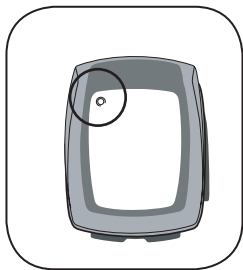

Figure 14- Wheel select screen
Both the 9i and 11i allow you to use two different wheel sizes. The icon for Wheel 1 is a small circle. The icon for Wheel 2 is a partial circle surrounding the Wheel 1 icon (Figure 14).
*The Wheel Select icon changes (Figure 14). Repeat step 2 to change again.*